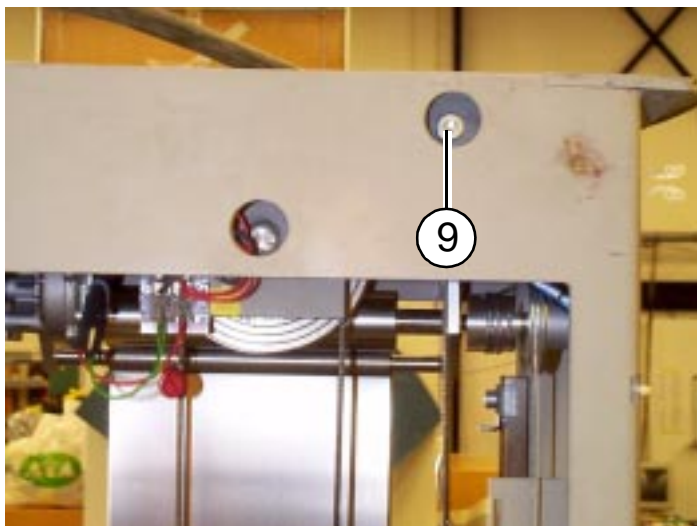

Fig. 6
14. Remove the screw (see Fig. 6, pos.9).
15. Remove the eye loop (see Fig. 6, pos. 9).
8. Secure the free end of the steel rope to the stand (see Fig. 6, pos.9).